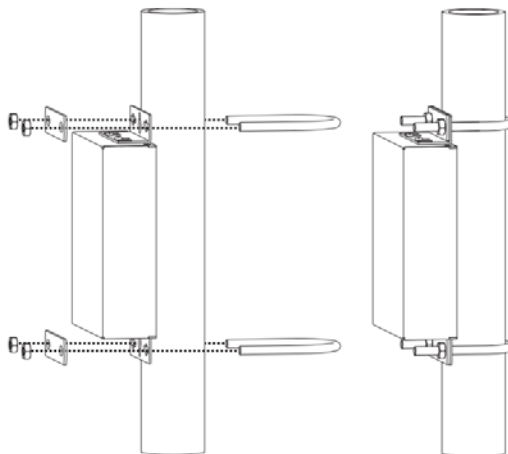

FIG. 35 Mount to projector pipe with bolts through brackets
The AVB-VSTYLE-POLE-MNT, V Style Single Module Pole Mounting Kit (**FG1010-723**) is designed for mounting a single module to a projector pipe (or other 2 inch diameter pipes). The kit contains all the mounting hardware for the assembly in FIG. 35.
2. Insert the first u-bolt around the pole/pipe and through the bracket and plate according to FIG. 35.